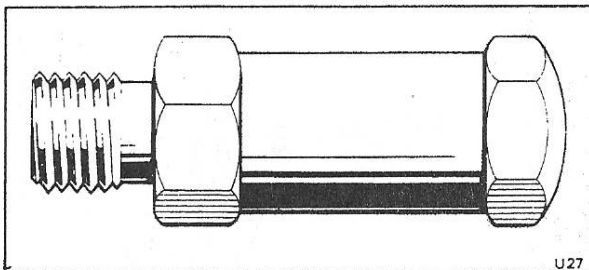

Fig. S70 Quick spray pattern changer
7. **Quick pattern changer (see Fig. S70).** This fits on the spray gun in place of the fluid needle adjusting screw. It enables the operator to produce two fan pattern sizes whenever they are required. When fitted, a light pull on